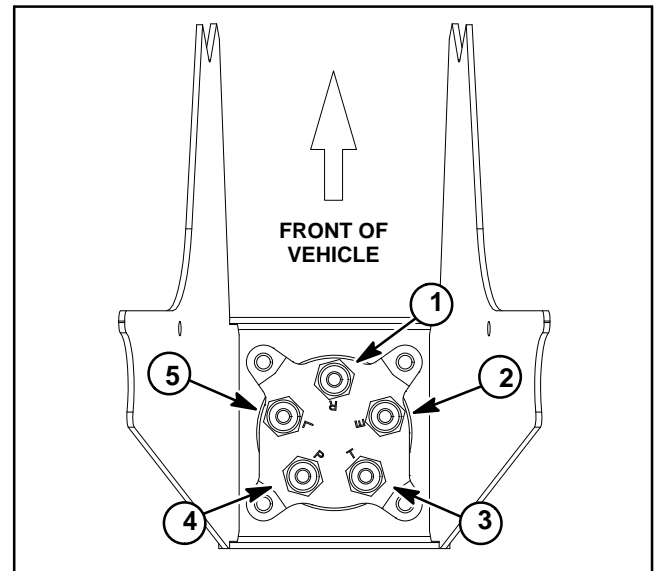

Figure 40
6. Remove four (4) cap screws that secure steering control valve to vehicle frame. Move steering valve (with hydraulic hoses attached) away from vehicle frame.
7. Label and disconnect hydraulic hoses from steering control valve (Fig. 40 and 41). Install caps or plugs in hoses and valve fittings to prevent contamination and leakage of hydraulic oil.
1. Replace O-rings on hydraulic fittings. Remove caps and plugs from hoses. Connect hydraulic hoses to correct steering control valve ports (Fig. 40 and 41) (see Hydraulic Hose and Tube Installation in this chapter). Make sure that hoses are not twisted while tightening.
2. Position steering control valve to vehicle frame with port R toward front of vehicle (Fig. 40). Secure steering control valve to vehicle with four (4) cap screws.